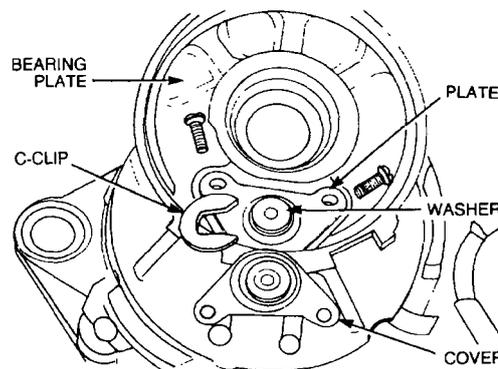

Figure 278 Removing the Bearing Plate
- k. Remove the single bolt securing the bearing plate to the housing and remove the screws securing the cover to the plate (Figure 278).
- l. Remove the cover and C-clip from the end of the clutch, remove the washer and plate, withdraw the bearing plate from the housing and remove the washers from the shaft (Figure 278).
- l. Fit the plate and washer on the bearing plate (Figure 278). Install the C clip to secure them. Install the cover and secure it with the two cover screws.